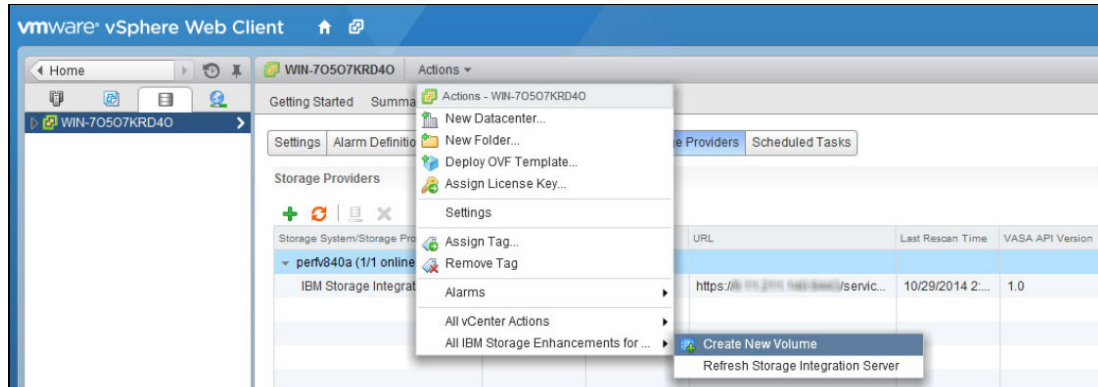

Figure 12-6 The IBM Storage Enhancements for VMware vSphere Web Client plug-in
1. Use the plug-in to select **WIN-70507KRD40** (Figure 12-6). Then, select **Actions** → **All IBM Storage Enhancements for VMware vSphere Web Client Actions** → **Create New Volume**.